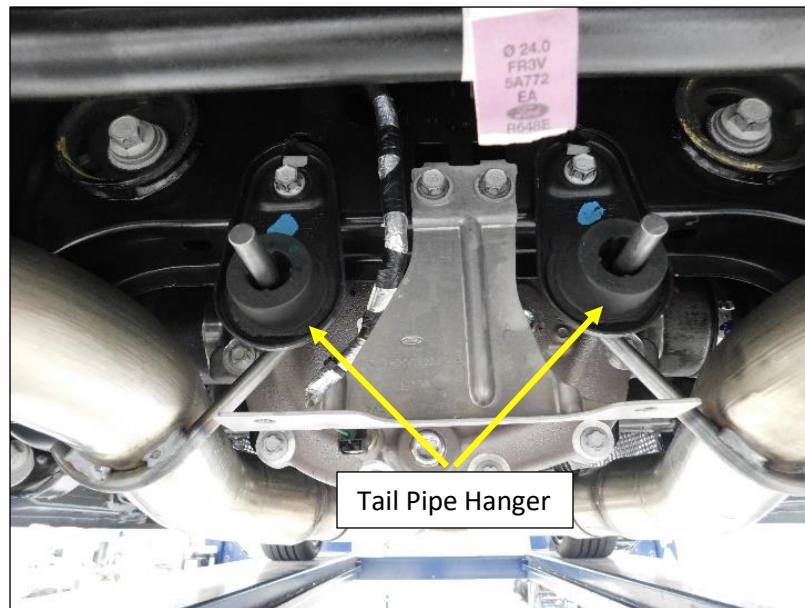

Figure 4
5. Remove the tailpipe hanger mounting bolts, but do not remove the hangers (**Fig. 4**).